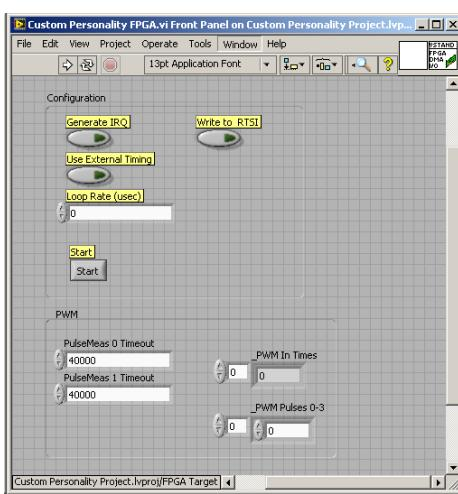

Figure 47: Create Labview FPGA target and XML - 10
9. The project menu will now appear and should look something like Figure 47. Select the LabVIEW VI as demonstrated our is called Custom Personality FPGA.vi